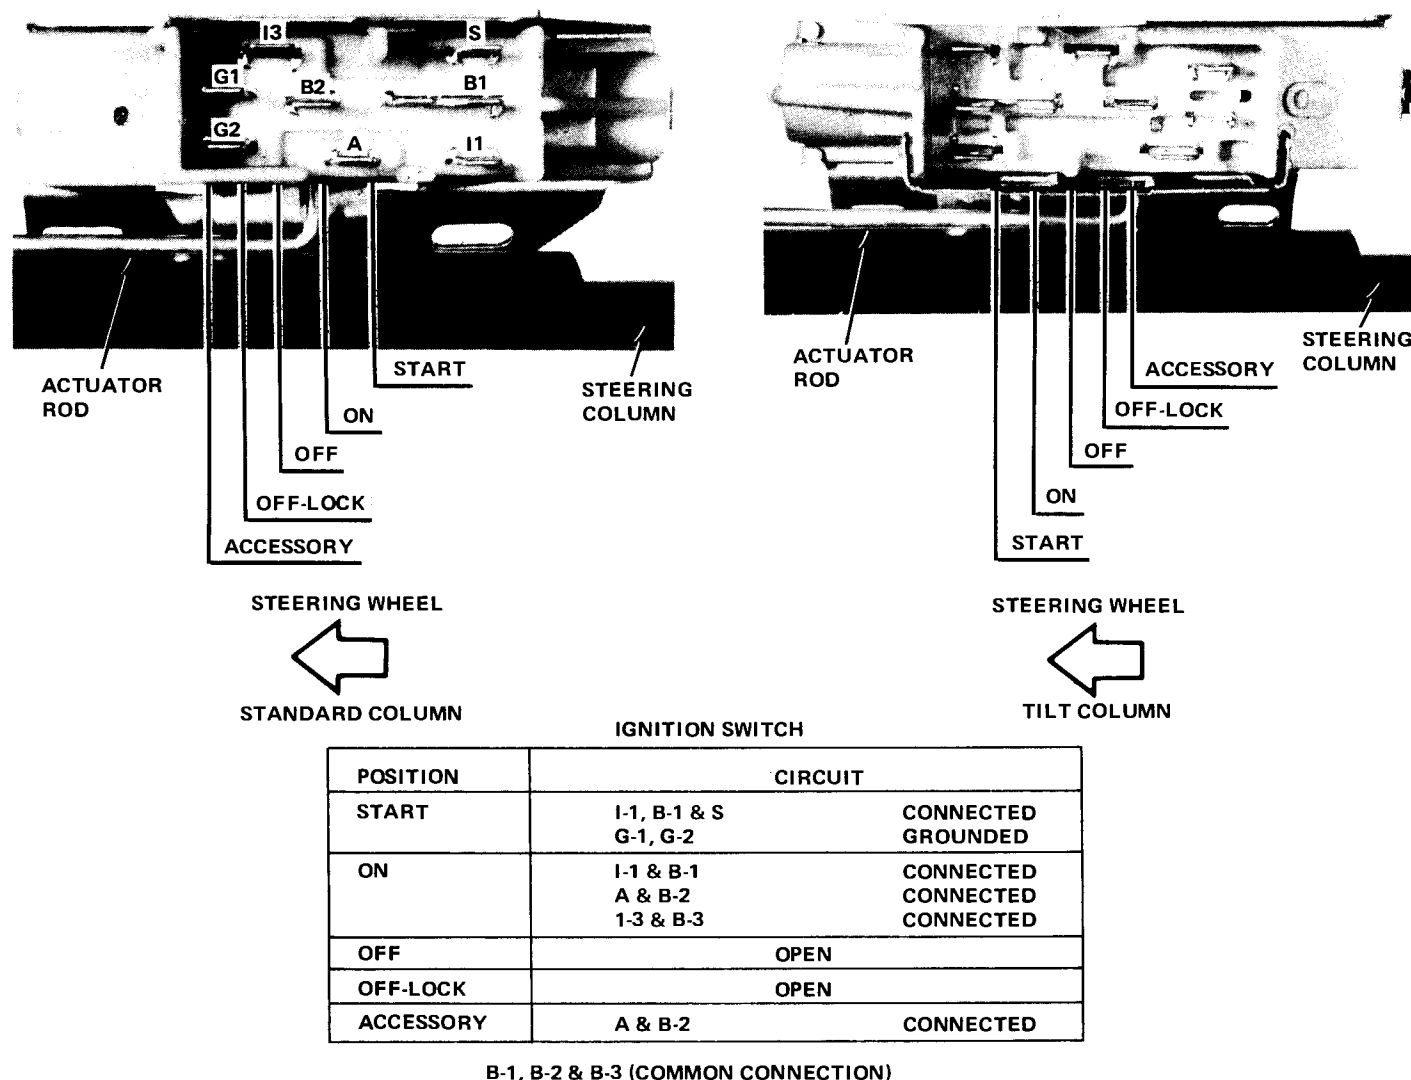

Fig. 3-71 Ignition Switch Positions
(1) With actuator rod disconnected, position switch as shown in figure 3-71.
(2) Move slider to extreme left (accessory position).
The ignition switch terminals are shown in figure 3-71.